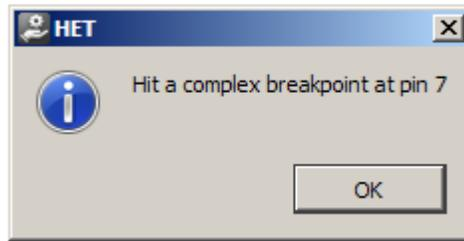

Figure 33. Complex Breakpoint Hit
10. The program should stop with a message "Hit a complex breakpoint at pin 7" (see Figure 33).